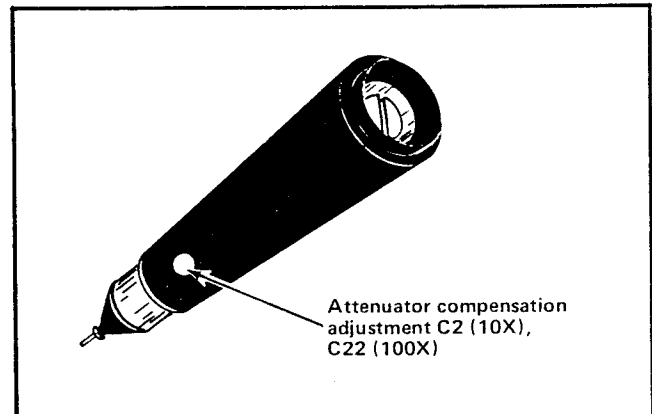

Fig. 5-9. Location of attenuator compensation adjustment.
- f. ADJUST—C2 (10X) or C22 (100X) attenuator compensation, see Fig. 5-9 for a square leading corner on the test oscilloscope waveform.